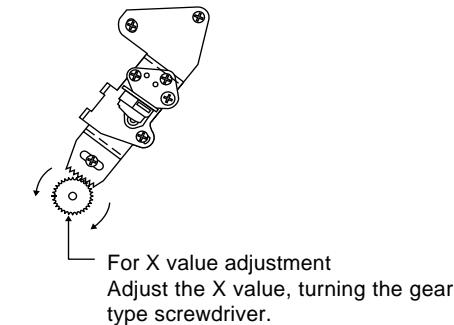

Figure 1-33.
Move the A/C head with the X value adjustment gear driver (JiGDRiVER-6) by the method shown in Figure 1-33, and adjust the A/C head so as to get the maximum envelope waveform. (Note: When the A/C head is adjusted, adjust so that the maximum envelop waveform is obtained nearest the position of initial setting made in Page 30.)
- ① Tentatively fix A/C head arm screws ① and ② by the method described in Page 30 "Replacement 3".
- ② After shortcircuiting TP7701 and TP7702, plug in the powercord, then turn on the power. And playback the alignment tape (VROEFZCS). As a result the auto-tracking is automatically cancelled, so that the X value adjustment mode is set.
- ③ Move the A/C head with the X value adjustment gear driver by the method shown in Figure 1-33, and adjust the A/C head so as to get the maximum envelope waveform. (Note: At this time adjust so as to get the maximum envelope waveform nearest the A/C head position which has been set in case of X value rough adjustment as stated in Page 33, 3-②.)
- ④ Tighten finally the screws ① and ②. Be sure to tighten at first the screw ① and then the screw ②.